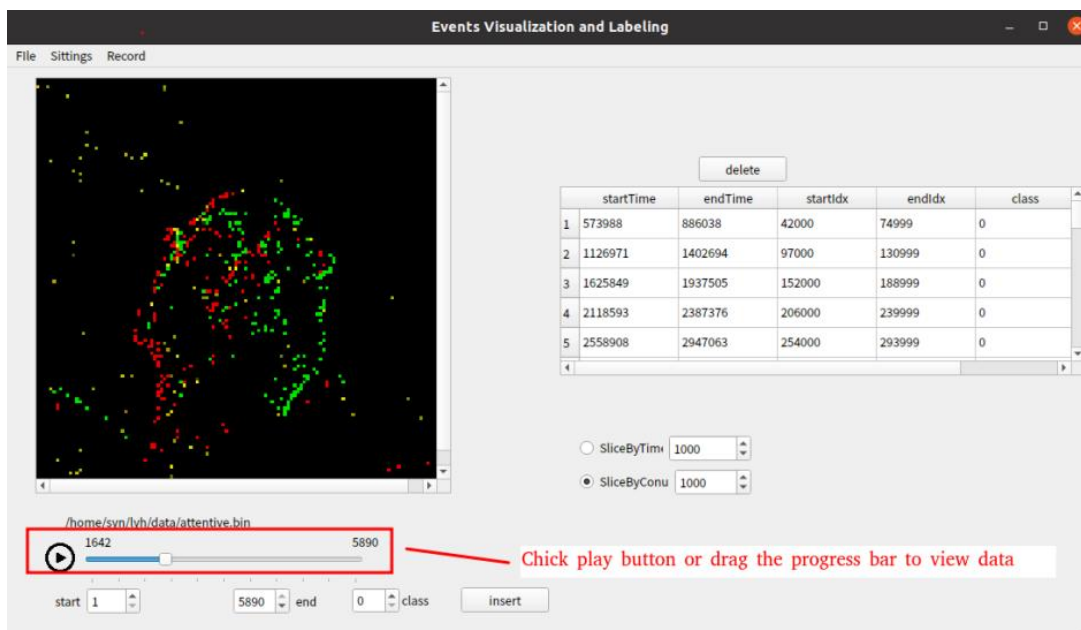

Figure 17: DVS tool visualization
3. Drag the progress bar or click the play button to visualize the data(Figure 17).